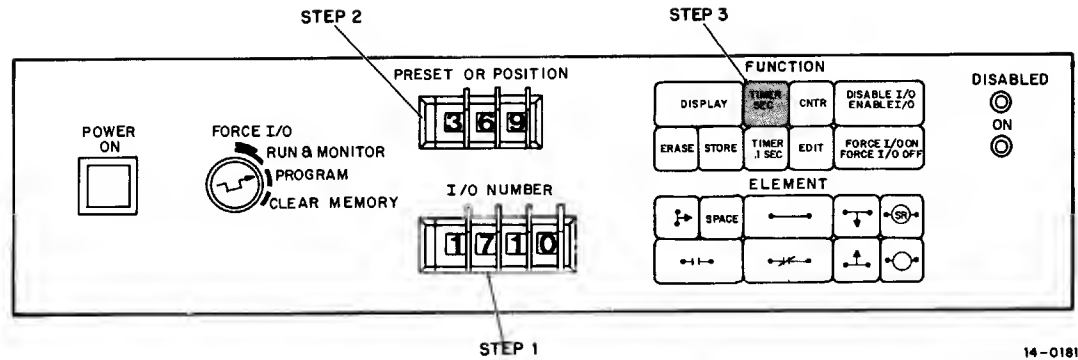

Figure 3-8 Timer (or Counter) Output 1710 Preset to 369 Seconds (Counts)
3. Press the applicable timer or counter function key. (Figure 3-8 illustrates the preceding steps.)